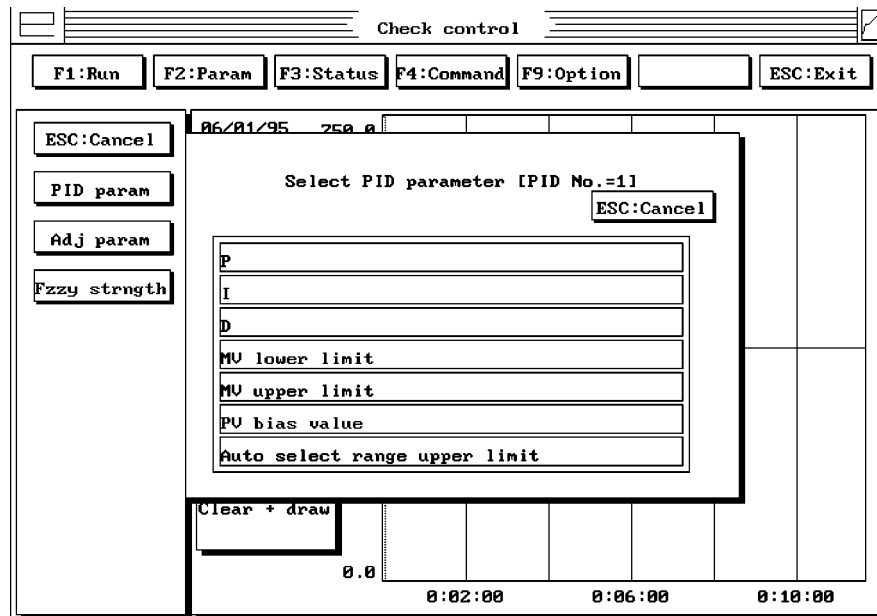

Figure 13
4. From the pop-up, double-click on 'P' (Figure 13). Note that the default value is 100% which should be adequate for most applications. If a new value is desired, simply type in the new value.